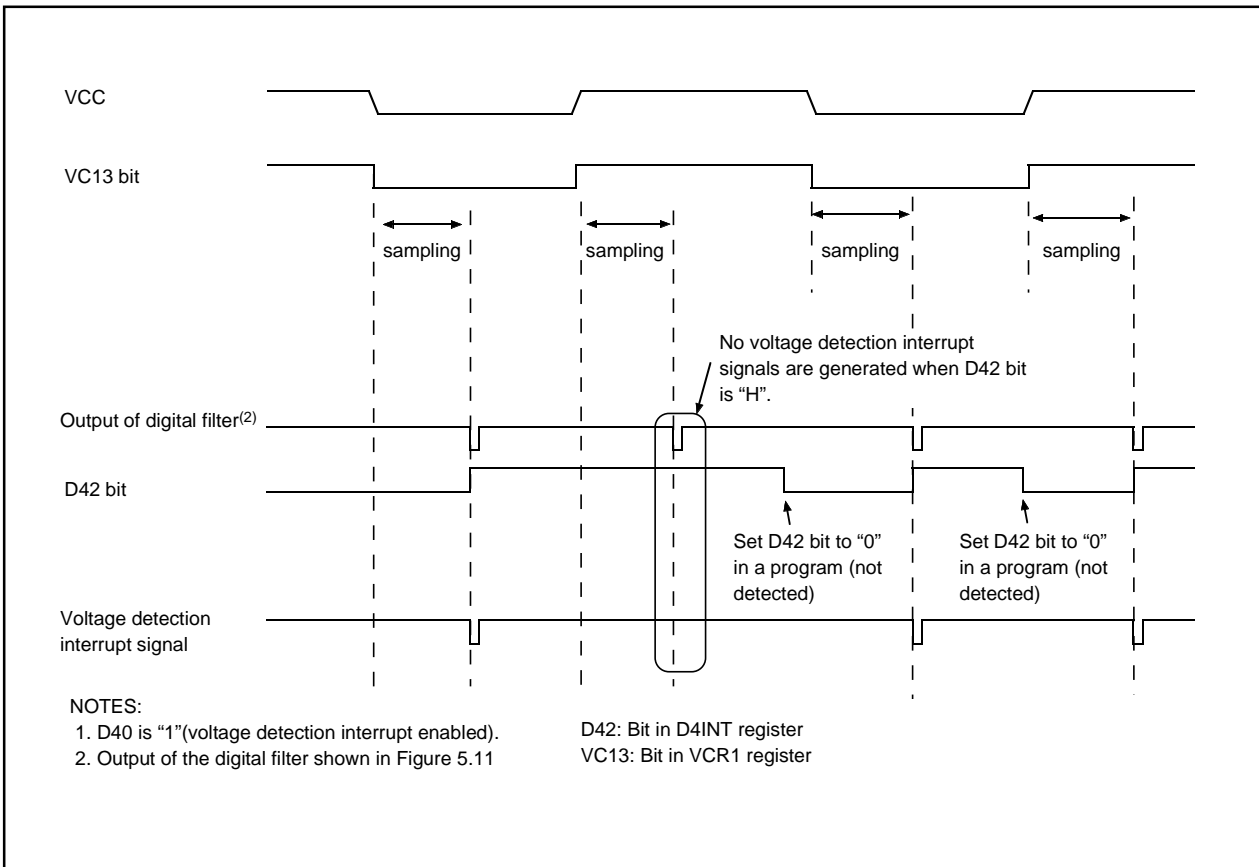

Figure 5.14 Voltage Detection Interrupt Generation Circuit Operation Example
To use the digital filter (D41 bit in the D4INT register is set to "0"), set the CM14 bit in the CM1 register to "0" (low-speed on-chip oscillator). Figure 5.14 shows an operation example of voltage detection interrupt generation circuit.
2. Refer to Figure 5.14, "Operation Example of Voltage Detection Interrupt Generation Circuit" for interrupt generation timing.